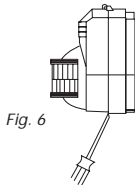

Fig. 6
- Open the PIR Detector by inserting a small flat bladed screwdriver into the slot at the base of the unit [Fig. 6]. Push screwdriver gently to release catch and to allow front cover to be opened fully - the cover is hinged at the top.